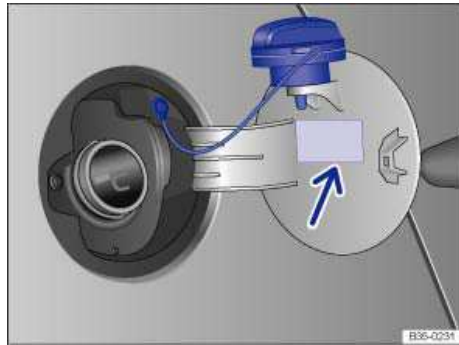

Fig. 157 Fuel cap placed on the open fuel filler flap.
- Unscrew the fuel cap counterclockwise and remove. Use the slot or the upper edge of the fuel filler flap to hold the cap while refueling ⇒ fig. 157.
⇒ fig. 157.